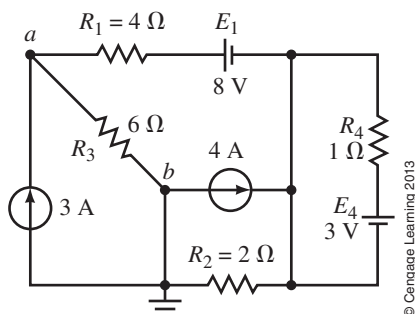

FIGURE 8-85
- Using mesh analysis, determine the current through the 6-Ω resistor in the circuit of Figure 8-85.